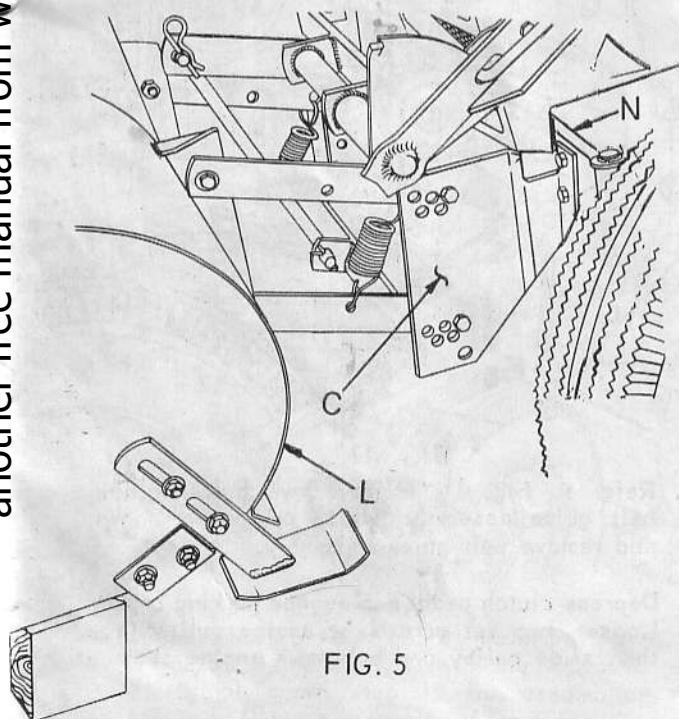

FIG. 5
8. Place snow thrower (L), on six inch blocks as shown in Fig. 5, and push tractor into position to assemble to snow thrower.
9. Bolt L.H. hanger bracket (C), to rocker bar (N), with two $3/8 \times 1/2$ hex bolts, and gripco nuts. Bolts and nuts will be found in plastic bag. Leave nuts loose.